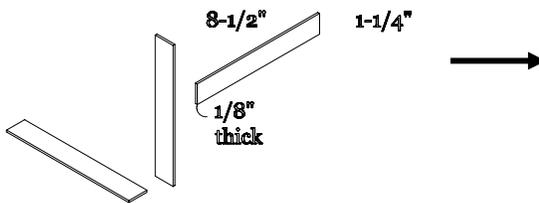
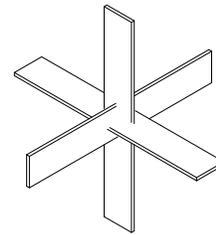

Figure 2.
Figure 3.
- 2.1 Start in CAD with 3 slabs of material each slab is  $1\text{-}1/4" \times 8\text{-}1/2" \times 1/8"$  thick as shown in figure 2. Intersect the three slabs at their center (figure 3).